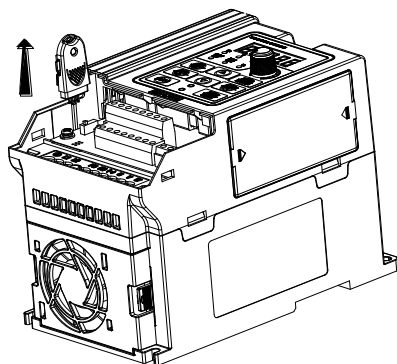

Figure B-4 Uploading and downloading module removal
Step 4: Unplug upload and download module from the inverter control board (As shown in figure B-4) .